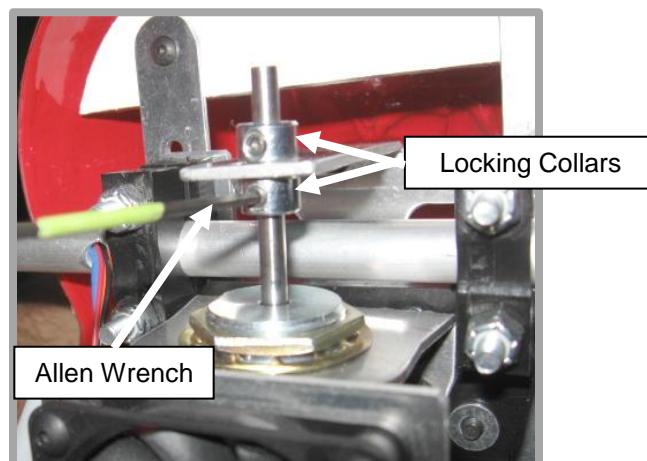

Fig. 15
1. Loosen both Locking Collars on the Solenoid Shaft as shown in Fig. 15.